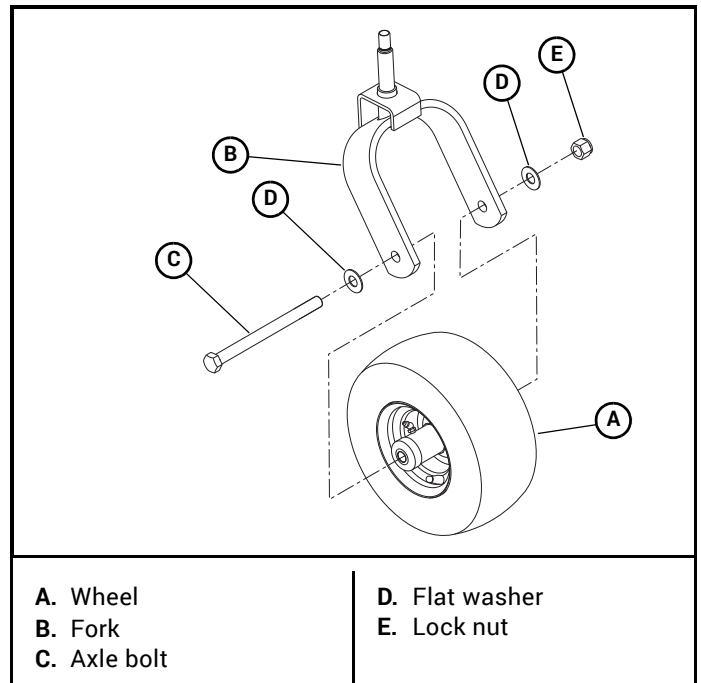

Figure 4-32
3. Remove the wheel from the fork by removing the axle bolt, flat washers, and lock nut. Figure 4-32